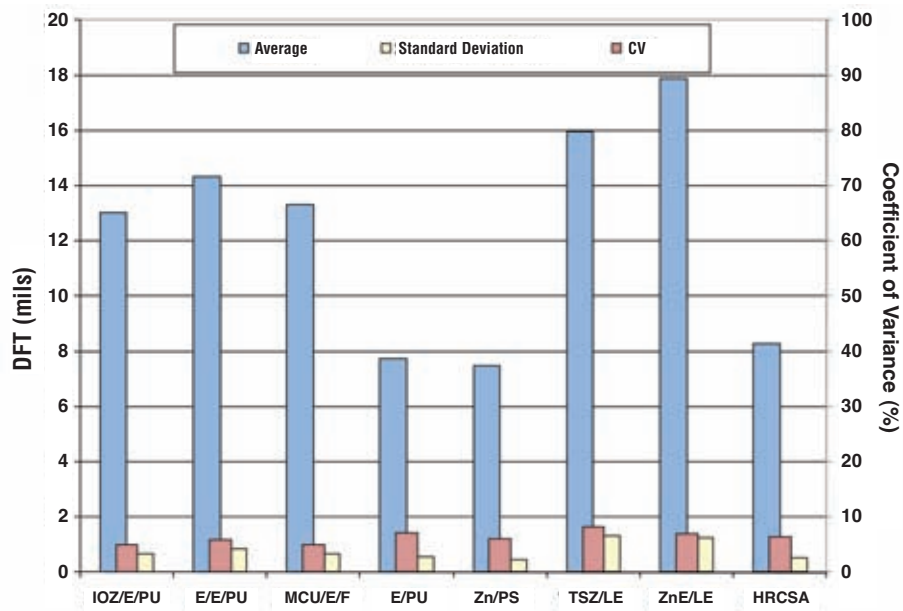

Fig. 4: Mean DFT values (Type I panels)
Figure 4 shows the mean DFT, standard deviation, and coefficient of variance (CV) of each coating system. DFT varied significantly, from 7.5 mils to 17.8 mils, depending on the coating system. None of the mean DFTs were less than 7 mils, and three systems (E/PU, Zn/PS, and HRCSA) were between 7 and 10 mils. All three-coat systems (IOZ/E/PU, E/E/PU, and MCU/E/F) had mean DFTs between 10 mils and 15 mils. The remaining two-coat systems (TSZ/LE and ZnE/LE) had DFTs exceeding 15 mils. Variation of DFT data, in terms of CV and standard deviation, was the highest for the last group of coating systems.